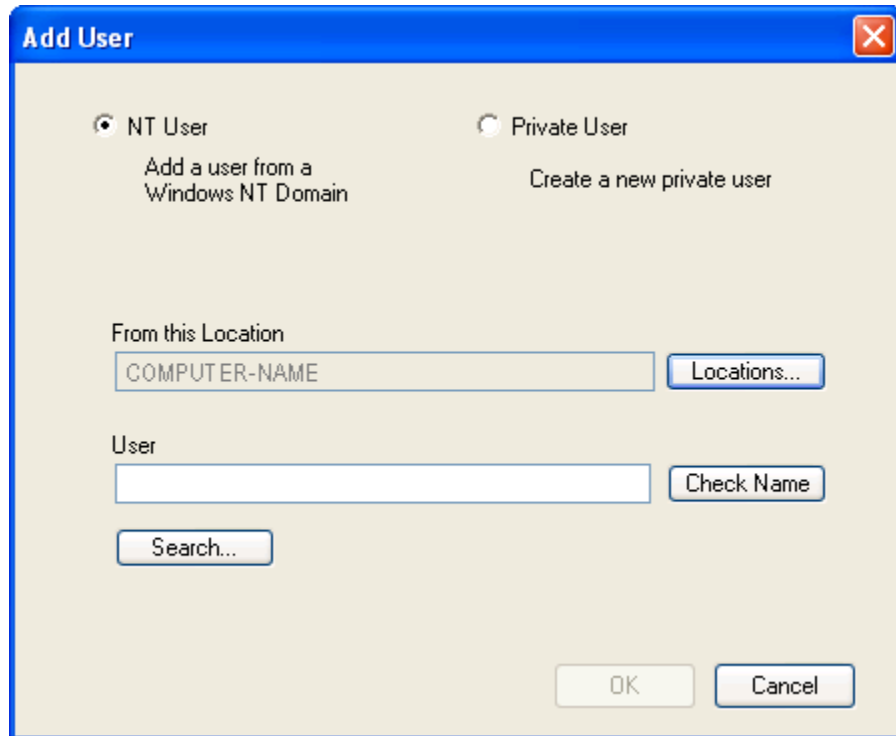

Figure 77 - Add User Window (NT)
2. The **Add User** window (Figure 77) appears. The **NT User** option button is selected by default. This will allow the addition of a user from a Windows NT Domain.
2. The **Add User** window (Figure 77) appears.